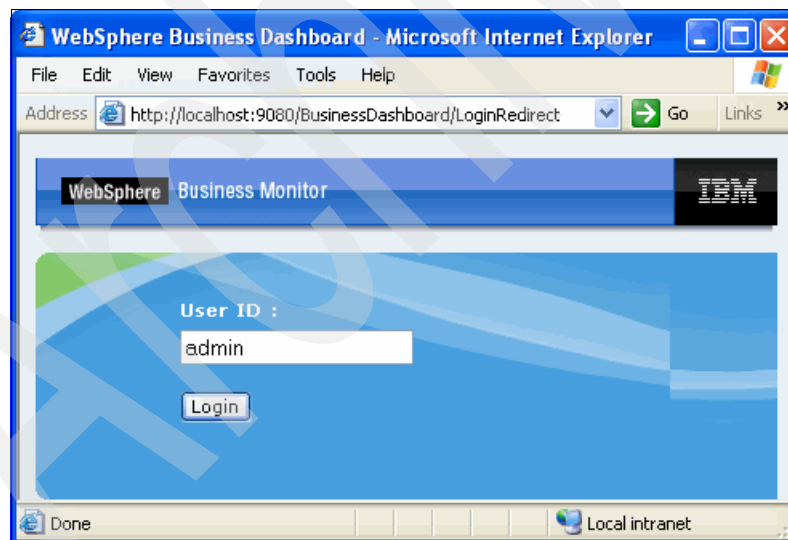

Figure 8-146 Login dashboard
1. Open the dashboard (Figure 8-146) and use admin to log in, which is the user ID that we set for dashboard alerts.